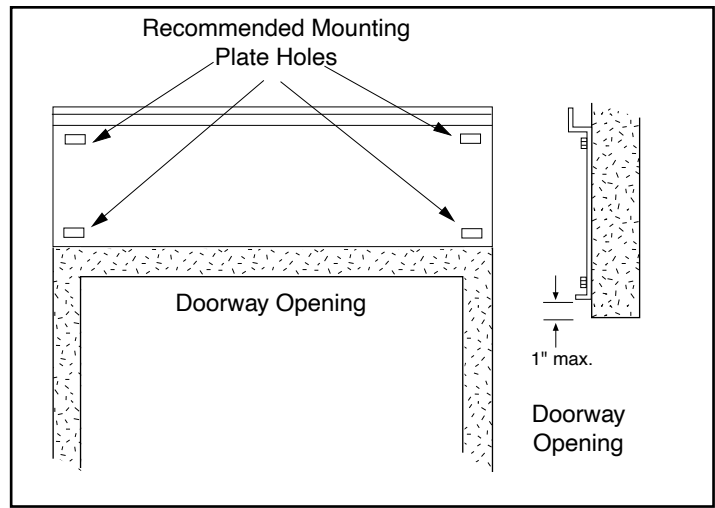

FIGURE 4 - Positioning of Mounting Plate
- A. Determine the location on the wall above the opening where the air curtain will be mounted. This location should center the unit over the opening and provide suitable mounting support. It is recommended to use at least four locations that correspond to the outer corners of the wall mounting plate. **See FIGURE 4.**